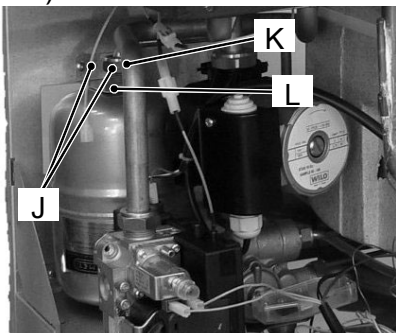

Figure 5
- 2) Loosen the screws J (Figure 5).
- 3) Unscrew the connection K and the lock-nut L (Figure 5).